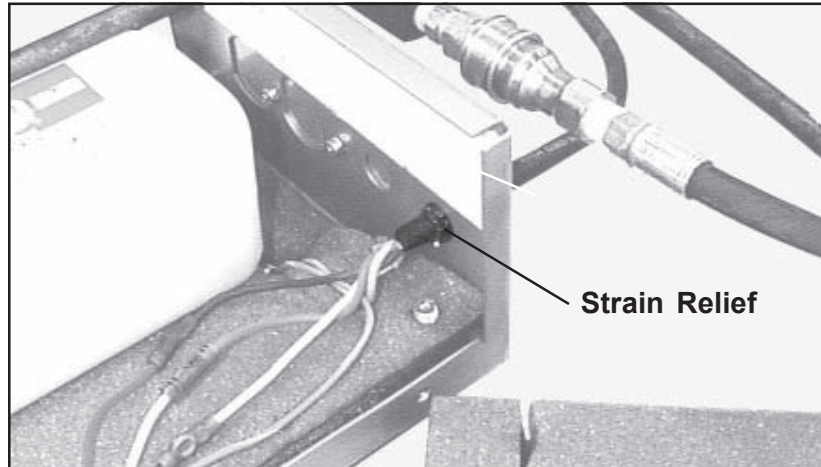

Figure 43. Strain Relief
13. With a pliers, hold down the tab on the strain relief and pull the strain relief out of the power pack (Figure 43).